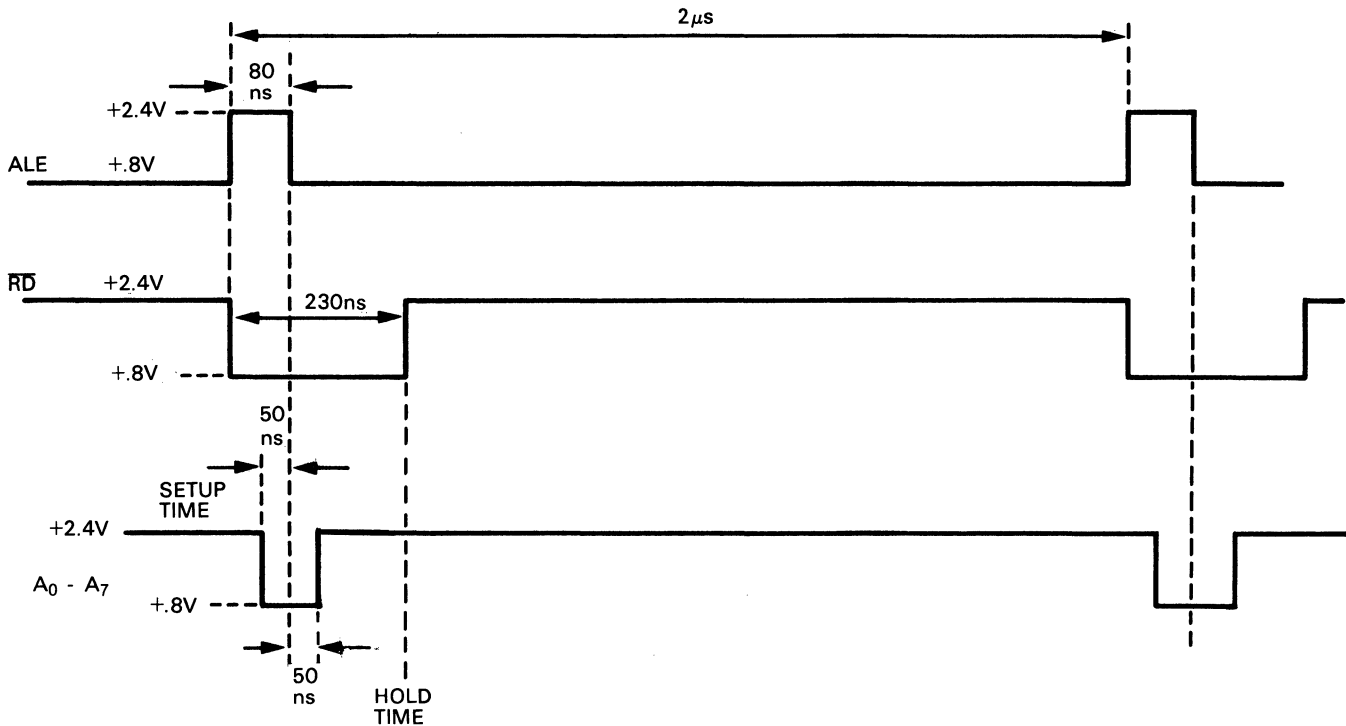

Figure 4-4. Address Lines A₀ - A₇ Test
- b. Adjust pulse generators for waveform shown in figure 4-4.